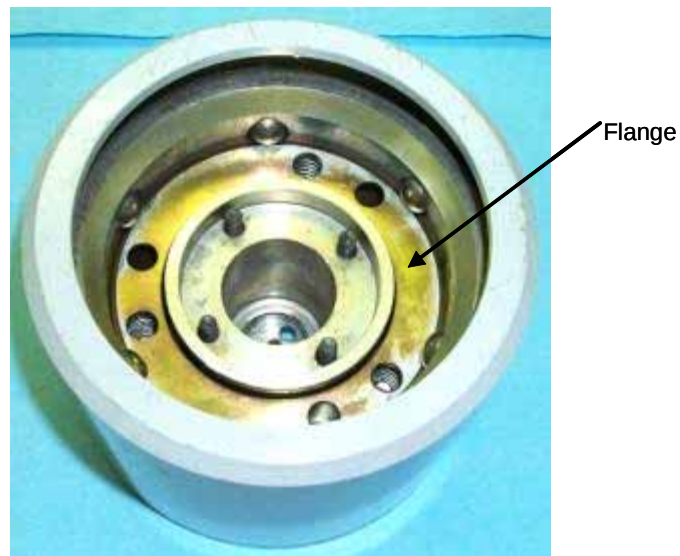

Figure 79. Insert outer flange.
9. Insert the outer spring retainer over the four M6 × 60 mm hex bolts (figure 79).